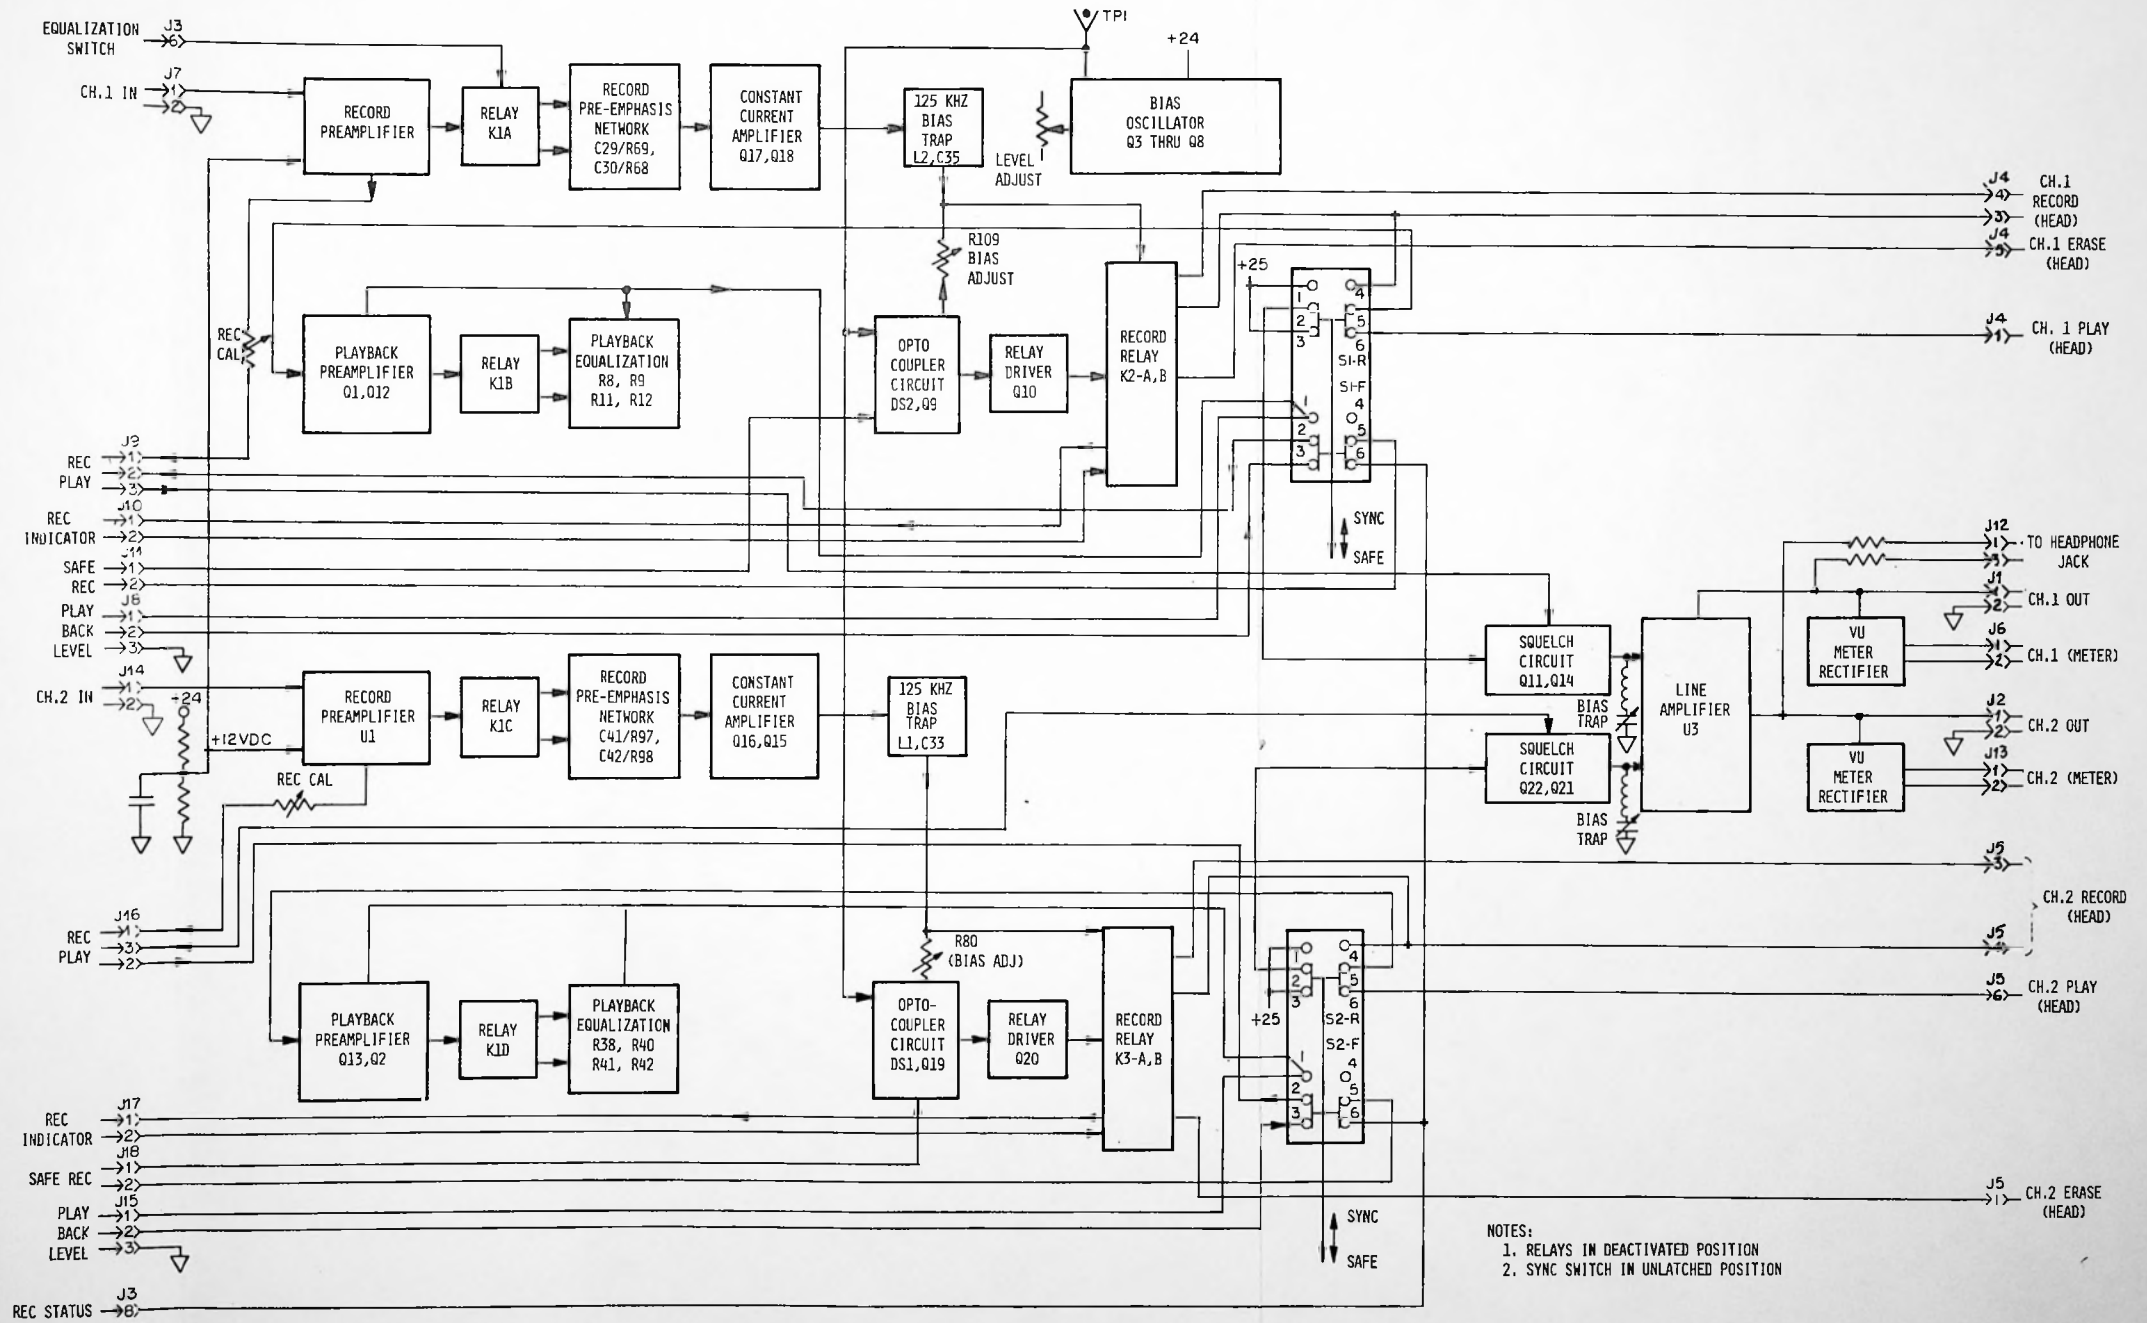

Figure 6-1. Record/Playback (Stereo) Functional Block Diagram
The record/playback electronics module is a fully self-contained model that includes 2-channel record/playback circuits. Provision is made for optional microphone preamplifier, input balancing transformers, and output transformers. The front panel includes all operating controls and vu meters for channels 1 and 2. Since the stereo record/playback electronics contains two identical channels, the following description is confined to channel 1 only. The record/playback electronics consists of: (1) record preamplifier U1; (2) record pre-emphasis network C29-R69, C30-R68; (3) constant current amplifier Q18-Q17; (4) 125 kHz bias trap L2-C35; (5) bias oscillator Q3 through Q8, T1; (6) playback preamplifier Q12-Q1; (7) equalization relay K1; (8) equalization network R9 through R12; (9) opto-coupled resistor DS-2, transistor Q9; (10) squelch circuit Q11, Q14; (11) record relay driver Q10; (12) record relay K2; (13) sync switch S1; (14) dual line amplifier U3; (15) vu meter rectifiers CR9 through CR 12; and associated components. Figure 6-1 shows a simplified functional block diagram of the record/playback electronics.